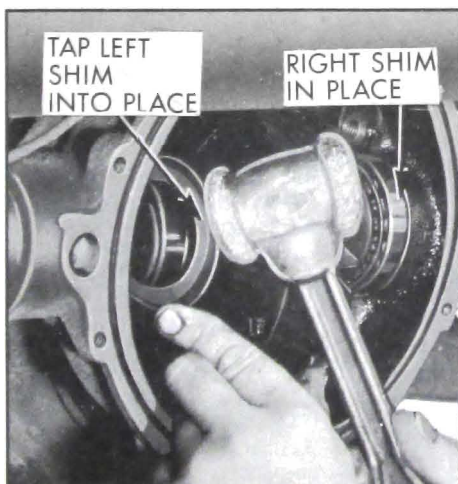

Figure 6-20—Installing Differential Adjusting Shim
2. Place differential case and bearing assembly in position in carrier. If new side bearings were installed, use original adjusting shims; if same bearings are to be reused, select new right and left adjusting shims each .002" thicker than original shim. Slip right shim in position at right bearing, then drive left shim carefully into position using a soft hammer. See Figure 6-20.
1. Install differential case and bearing assembly. Slip right shim into position at right bearing, then drive left shim into position using a soft hammer. See Figure 6-20.